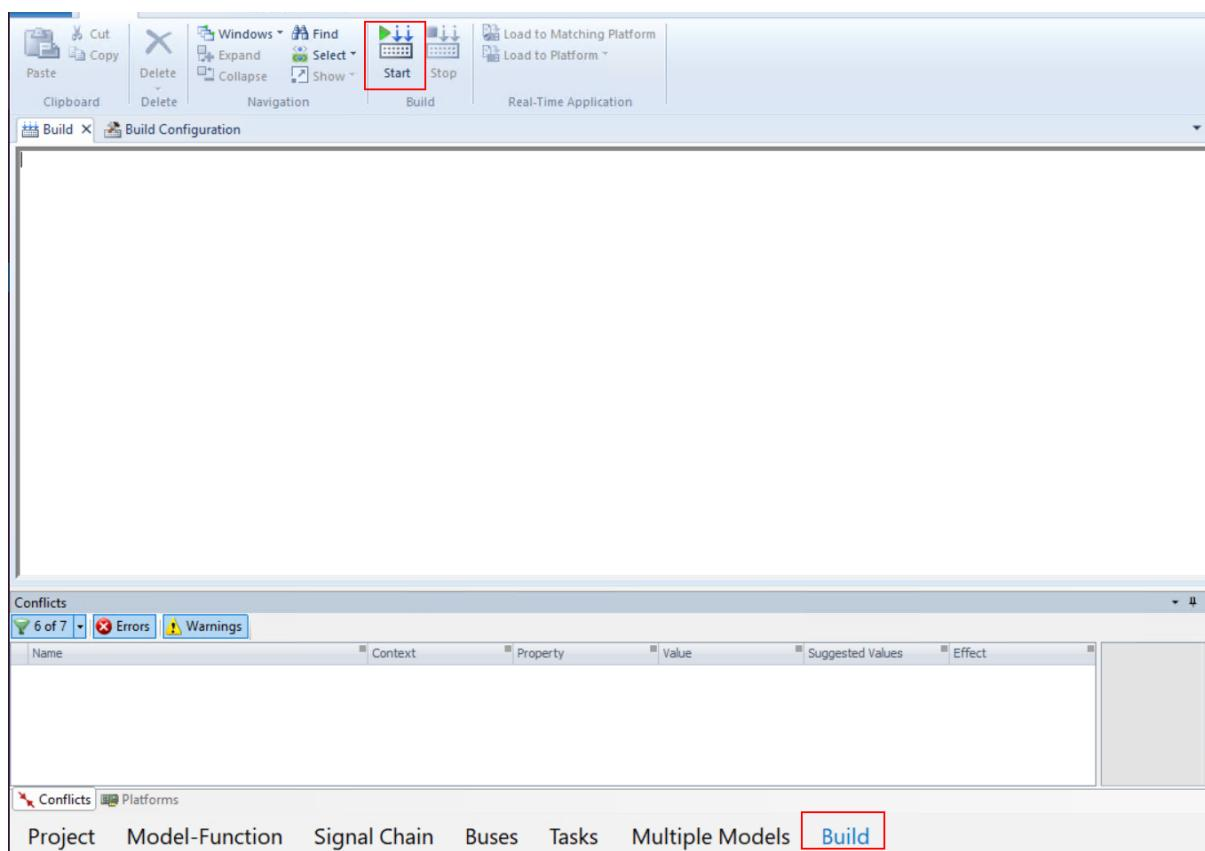

Figure 13.73: Build the project.
- 17) Go to the build tab and start the building process. After building is complete the application will be loaded automatically in the MicroAutoBox III (see Figure 13.73).